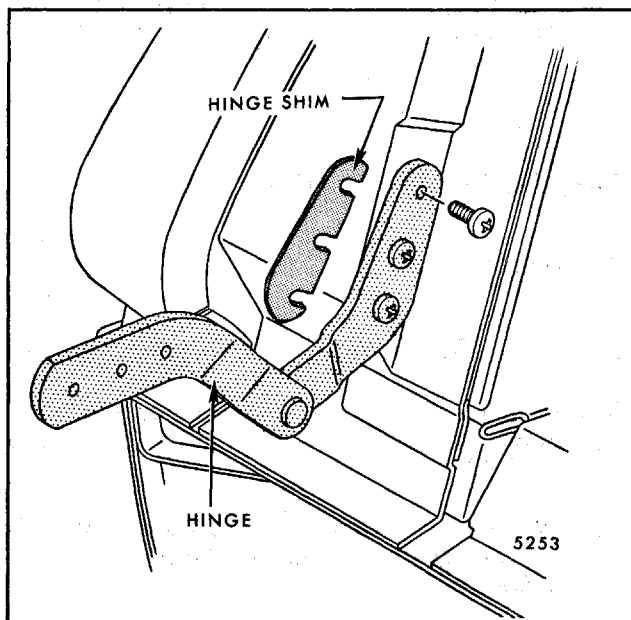

Fig. 7-120-Tailgate Hinge Assembly
2. Remove tailgate hinge attaching bolts from tailgate and body and remove hinge (Fig. 7-120).
Up-down and fore-aft adjustment is provided at hinge to gate attaching bolts. Side to side adjustment is achieved at hinge to body attaching bolts with spacer(s) (Fig. 7-120). Use spacer(s) provided or substitute with 1/2" inside diameter plated flat washer 1/16" thick at each hinge attaching bolt location on affected side.